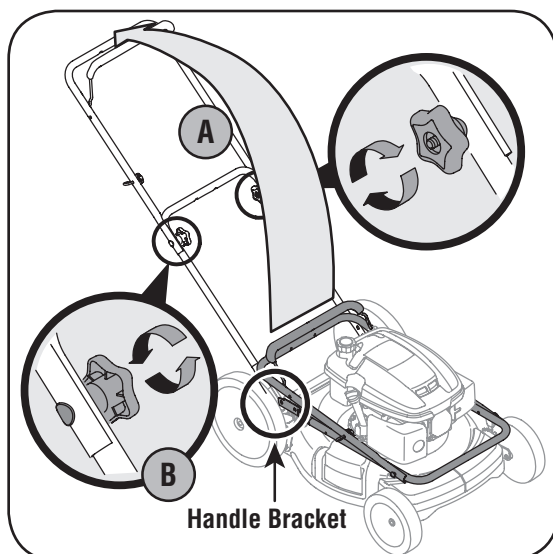

Figure 3-2: Unfold handle and tighten hardware.
- a. Pull up and back on upper handle as shown in Figure 3-2. Make certain the lower handle is seated securely into the handle mounting brackets. Do not crimp cable while lifting the handle up.